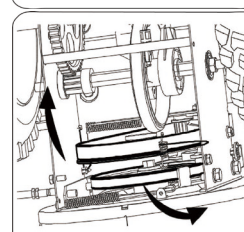

Figure 24
b. Unhook the support bracket spring from the frame. See Figure 24.